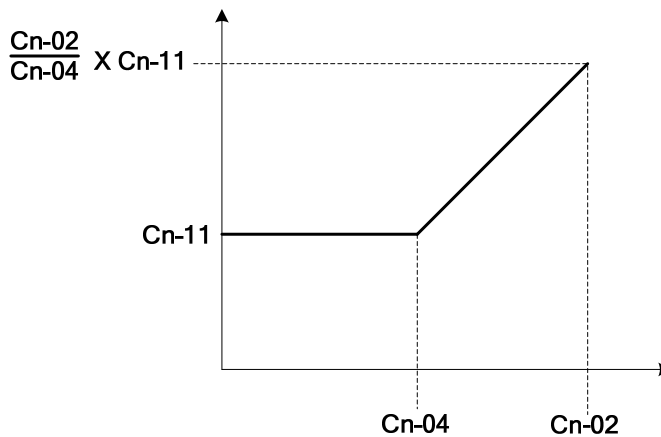

**Fig. 9.2.2.2 Output Frequency with Slip Compensation**
- The slip compensation is enabled when the output current is greater than motor no-load current (Cn-10). The output frequency will shift from f1 to f2 (>f1) for the positive change of load torque. (See Fig. 9.2.2.2)